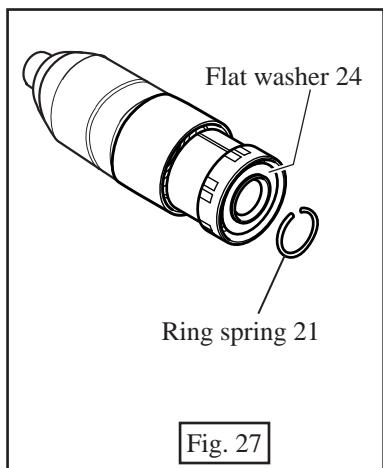
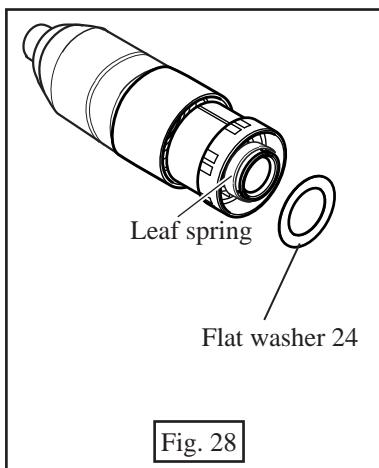

Fig. 27
Fig. 28
- (1) Remove ring spring 21. Then, flat washer 24 can be removed from chuck holder. See Fig. 27 and Fig. 28.